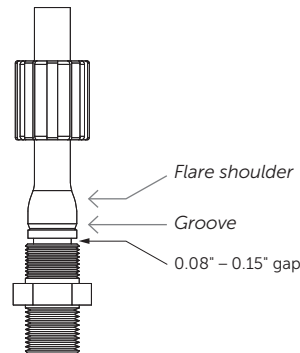

Figure 4.
1. Push the flared tubing end onto the Flaretek fitting body until the end of the fitting body contacts the flare transition of the tube (see Figure 4). The maximum gap between the tube end and fitting shoulder should be 0.08" to 0.15".